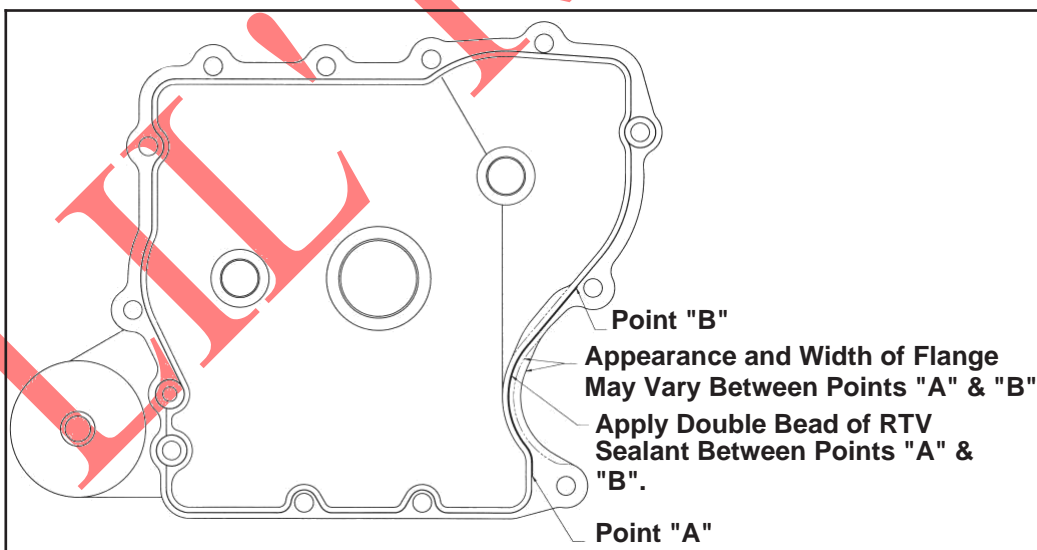

Figure 11-21. Oil Pan Sealant Pattern.
2. Apply a 1/16" bead of sealant to the *oil pan* as shown in Figure 11-21. Apply a second bead to the section between point "A" and point "B".